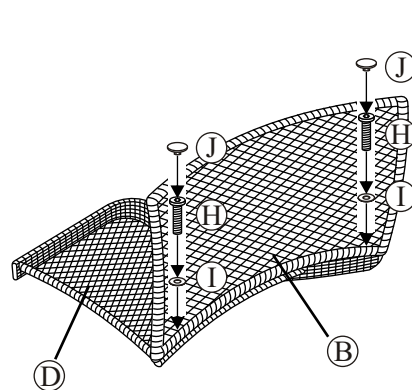
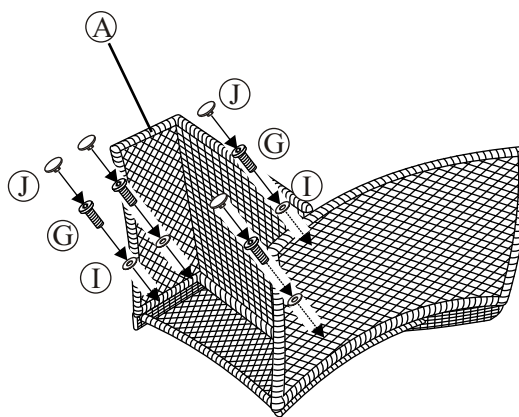
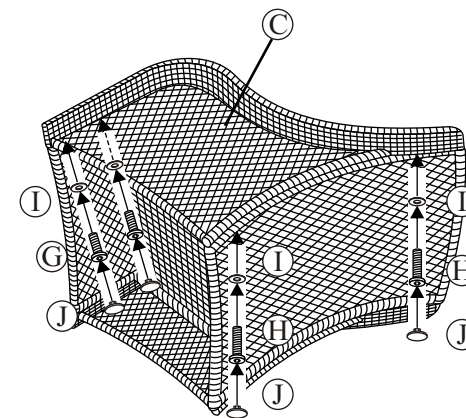

Fig.1
Fig.2
Fig.3
Attach the seat frame to the back frame by using four 5/16"x40 mm bolts and washer as shown in **Figure 1**. Guide these bolts through the holes in the seat frame, into the fixed nuts already in place in the back frame. **Do not over tighten.**
Attach love seat arm by inserting two 5/16"x25 mm bolts with washers through the holes in front seat portion of the love seat frame and into the holes in the love seat arm shown in **Figure 2**. Attach back of love seat arm by inserting two 5/16"x40 mm bolts with washers through holes in the back portion of love seat frame and into the holes in the rear portion of the love seat arm as shown in **Figure 2**. **Hand tighten only.** Repeat for the opposite side.
Step 2: Attach the back frame to right arm by using two 5/16"x40 mm bolts and washers as shown in **Fig.1**. Guide the bolts through holes in back frame, into pre-drilled holes in the right arm. **Hand tighten only.** Attach the seat frame to right arm and back frame by using four 5/16"x25 mm bolts and washers as shown in **Fig.2**. **Hand tighten only.** Attach the left arm to back and seat frame by using two 5/16"x25 mm bolts and two 1/4"x40 mm bolts and four washers as shown in **Fig.3**. **Hand tighten only.**